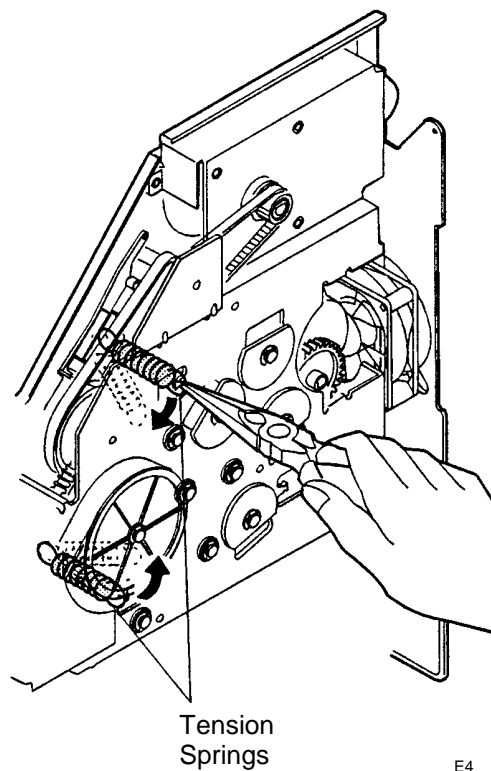

Figure 2. Removing the Springs
3. (Figure 2): Remove the Tension springs.